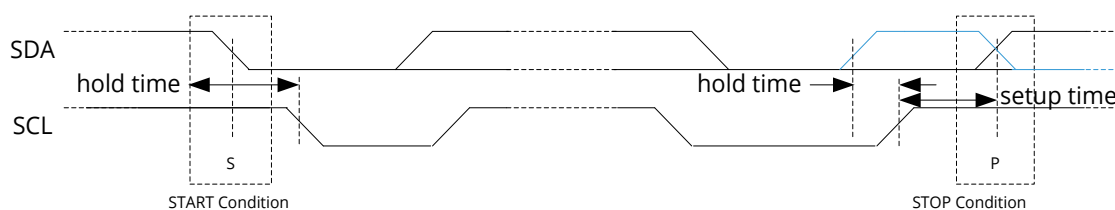

Figure 18. START and STOP (or repeated START, blue line) condition
An idle I²C bus state occurs when both SCL and SDA are not being driven by any master and are therefore in a logic HI state due to the pull up resistors. Every transaction begins with a START (S) signal and ends with a STOP (P) signal. A START condition is defined by a high to low transition on the SDA while SCL is high. A STOP condition is defined by a low to high transition on the SDA while SCL is high. START and STOP conditions are always generated by the master. This slave module also supports repeated START (Sr) condition which is same as START condition instead of STOP condition (the blue-color line shows repeated START in Figure 18).